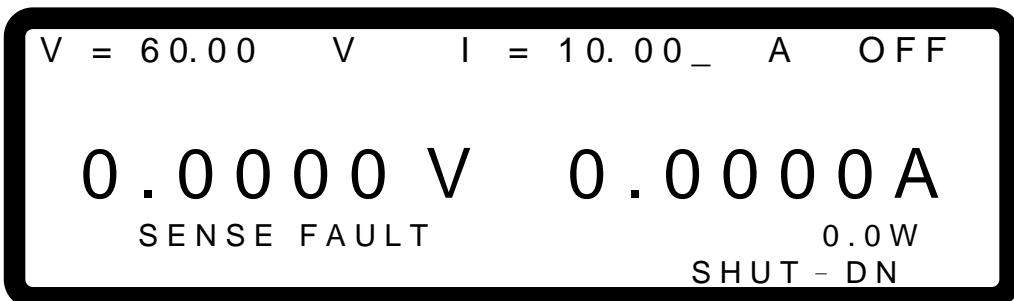

Figure 2-8
3. Although remote sensing is able to compensate for a voltage drop, if the line loss is too large (see specification) it will cause a protection error as shown in Figure 2-8 indicating it is unable to compensate for the voltage drop.
The remote sensing wire polarity must be correct, with the “+” terminal connected to the “+”output terminal and the “–” terminal connected to the “–”output terminal. If the polarity is reversed, the output will drop to 0V and the error message “SENSE FAULT” will display as shown in Figure 2-8.